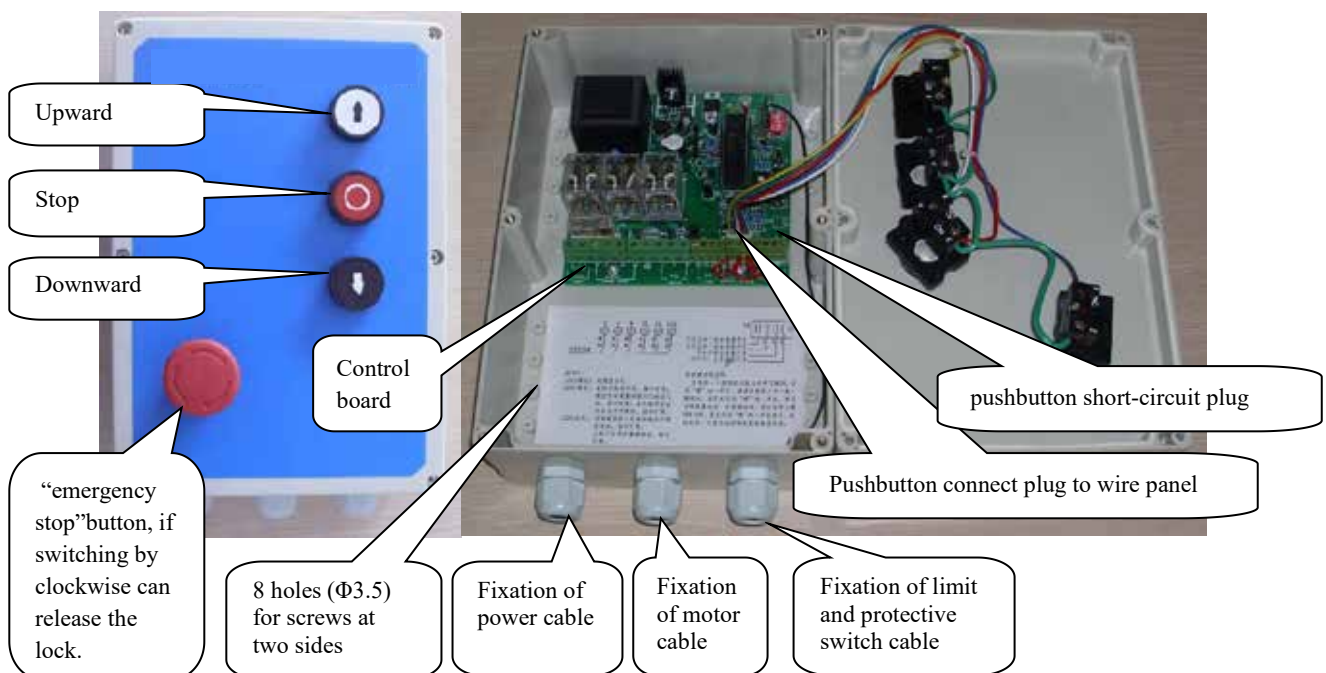

Fig. 6 Schematic diagram for control box structure 's
3.2.2.1 The "upward", "stop", "downward" and "emergency stop" buttons on control panel control the drive for corresponding operation status; control logic is set according to the principle of "emergency stop" action priority, after "emergency stop" is started, the state is self locked, while other buttons fail to work; the "emergency stop" state can be lifted when the button is switched according to the "emergency stop" button's arrow direction (as is shown in Fig. 6).